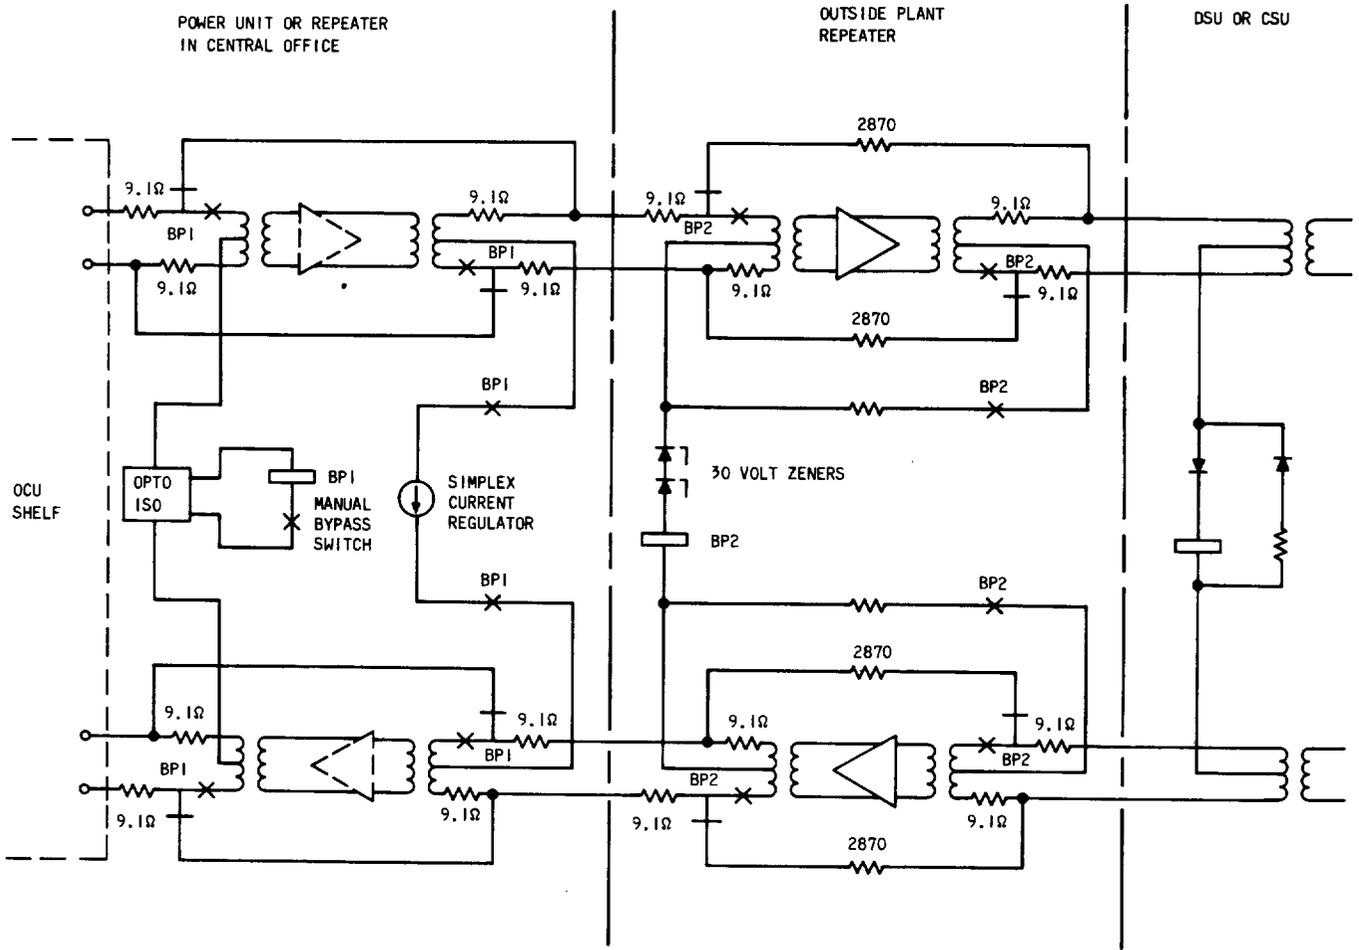

Fig. 1—Bypass Arrangements for Outside Plant and Central Office Repeaters
**2.06** Both repeater types also have a bypass feature which removes the repeater from the loop to allow dc testing of the pairs all the way from the OCU to the station. In the CO repeater or power unit (list 1 or 2 shelf), this is accomplished by manually operating the bypass button. In the list 2 shelf, an automatic bypass can be accomplished by removing the sealing current from the loop at the OCU. In either case, this illuminates the bypass lamp and connects the incoming pairs directly to the outgoing pairs with only small (approximately  $9\Omega$ ) lightning protection resistors left in the circuit. In the OP repeater, the bypass occurs when the simplex current is removed from the loops. In this case, the incoming pairs are connected to the outgoing pairs with a  $2.87\text{-k}\Omega$  resistor in each of the four legs left in the circuit. These arrangements are shown in Fig. 1.